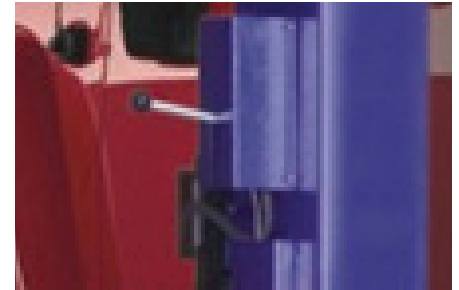

Fig. 2
5. **Be sure to clean all dust from hole.** (fig. 2).
Press the up button enough to allow the safety locks to be disengaged. Pull and hold down the safety lock release handle (Fig. 2) to release the safety locks.
12. Lower vehicle by pressing the Up button to disengage the safety locks. Pull and hold down the safety lock release handle (Fig. 2) the safety locks then press the lowering handle (Fig. 1) until the lift is completely lowered.